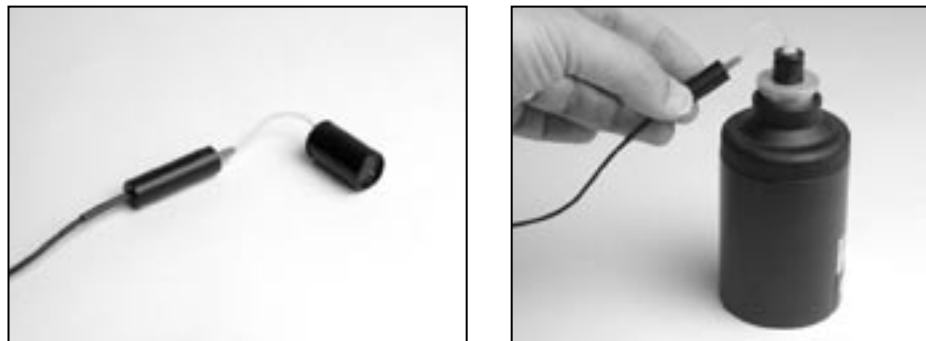

Figure B.1D—Calibrating the real-ear probe microphone
7. Thread the probe tube through the edged side of the probe microphone adapter so that the probe tube sticks out a couple of millimeters from the other end of the adapter. See Figure B.1D.